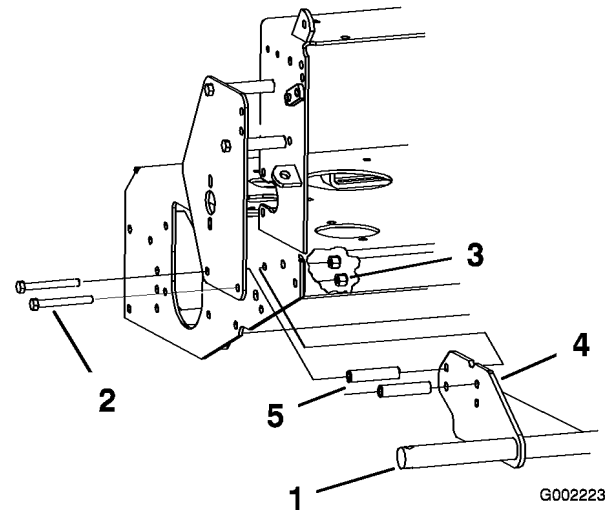
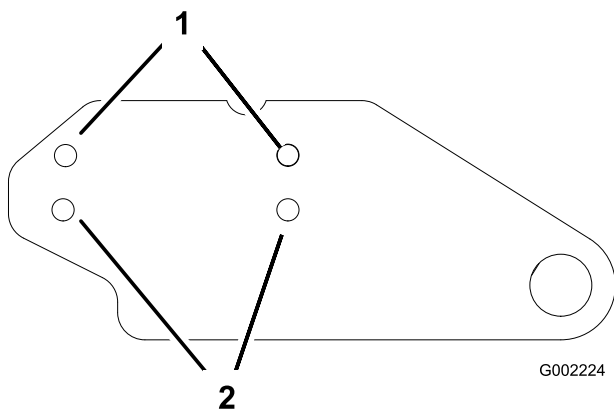
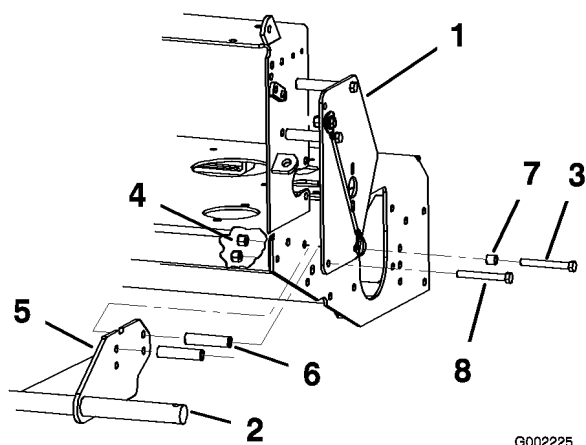
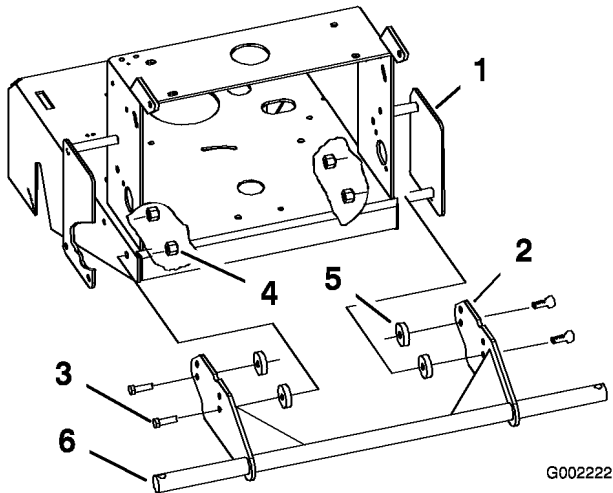

Figure 3
Figure 4
Figure 5
Figure 6
3. Remove the 4 bolts, spacers, and nuts securing the bottom of the two linkage guards on both sides of the frame (2 bolts and nuts on each side and spacers on the right side) (Figure 3). Save all 4 of the bolts and discard the locknuts.
4. Insert the axle mounting brackets between the linkage guards and the frame (Figure 3).
5. Insert the new long spacers (2–3/4 inches) between the axle mounting brackets and the frame on both sides, lining up the holes (Figure 3).
6. Install the axle to left side of the machine using 2 bolts previously removed and 2 locknuts (3/8 inch) in the top holes in the axle (Figure 3 and Figure 4).
7. Using the upper rear hole, install the axle to right side of the machine using 1 previously removed bolt (3/8 x 4 inches), 1 new long spacer (2–3/4 inches), and 1 locknut (3/8 inch) (Figure 4 and Figure 5).
8. Using the upper front hole, install the axle to right side of the machine using 1 bolt (3/8 x 4-1/2 inch) previously removed, 1 new long spacer (2–3/4 inches), 1 short spacer previously removed on the outside of the guard, and 1 locknut (3/8 inch) (Figure 4 and Figure 5).
3. Insert the axle mounting brackets between the pulley guards and the frame (Figure 6).
4. Insert the flat spacers between the axle mounting brackets and the frame, lining up the holes (Figure 6).
and locknuts (3/8 inch) supplied with the sulky, secure the axle and the spacers as illustrated in Figure 4 and Figure 6.